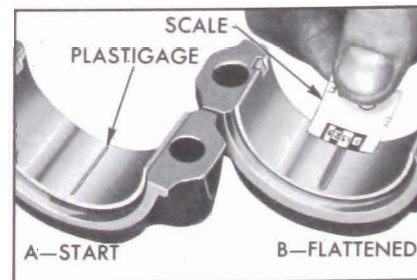

Figure 2-37—Checking Bearing Clearance with Plastigage
2. Place a piece of Plastigage lengthwise along the bottom center of the lower bearing shell (Figure 2-37, view A), then install cap with shell and tighten bolt nuts to 40-45 ft. lbs. torque. NOTE: The rib on edge of cap and the conical boss on web of rod must be toward rear of engine on all rods in right bank or toward front of engine in left bank.
5. Using the scale printed on the Plastigage envelope, measure the flattened Plastigage at its widest point. The number within the graduation which most closely corresponds to the width of Plastigage indicates the bearing clearance in thousandths of an inch. See Figure 2-37, View B.